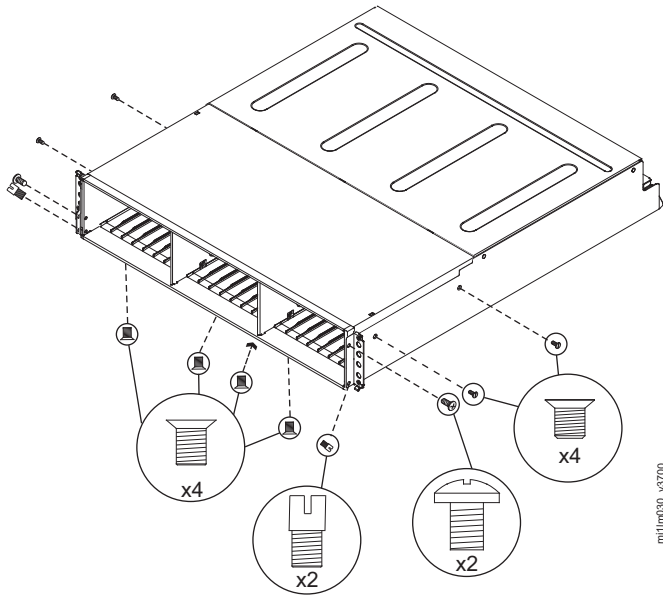

Figure 110. Removing the screws of an expansion enclosure assembly
12. Remove the four screws from the bottom of the enclosure (see Figure 110 on page 361). Remove the three screws that are near the front and the screw that is near the middle. Label these screws to indicate the location from which they are removed and place them aside.
14. Remove the three screws and one screw-pin on the right side that secure the midplane assembly to the enclosure (see Figure 110). Label the screws to indicate the location from which they are removed and place them aside.
15. Remove the three screws and one screw-pin on the left side that secure the midplane assembly to the enclosure (see Figure 110). Label the screws to indicate the location from which they are removed and place them aside. See Figure 4.